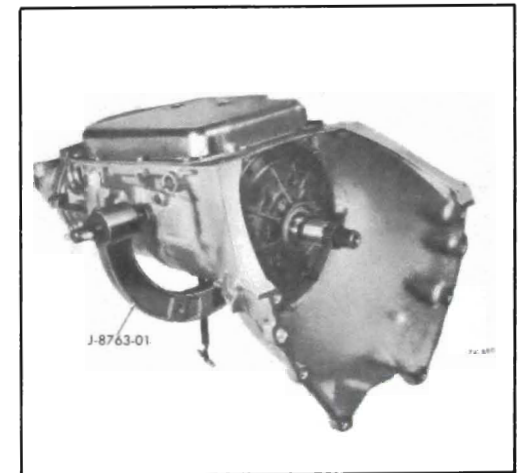

Figure 76-504
3. Install fixture and transmission into Holding Tool Base, J-3289-20, with bottom pan facing up. See Figure 76-504.